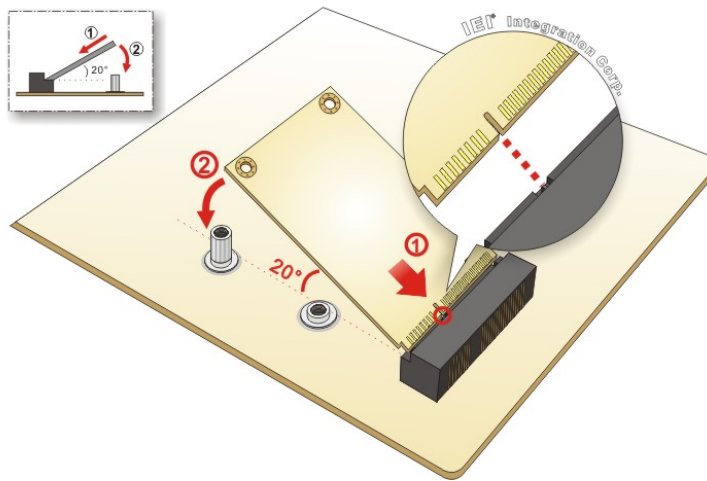

Figure 3-9: Inserting the PCIe Mini Card into the Slot at an Angle
Step 4: **Insert into the socket at an angle.** Line up the notch on the card with the notch on the slot. Slide the PCIe Mini card into the socket at an angle of about 20° (Figure 3-9).